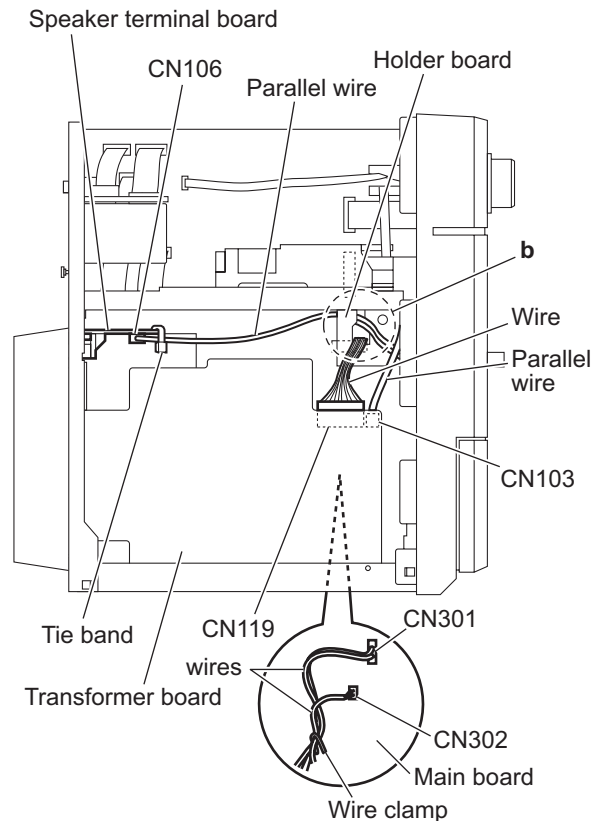

Fig.5
- (4) Remove the wire clamp fixing the wires and disconnect the wires from the connector (CN301, CN302) on the forward side of the main board. (See Fig.5.)
After connecting the wires to the connectors, fix the wires with the wire clamp as before. (See Fig.5.)
- (5) From the left side of the main body, disconnect the parallel wire from the connector CN103 on the transformer board. (See Fig.5.)
- (6) Disconnect the wire from the connector CN119 on the transformer board. (See Fig.5.)
After connecting the wire, pass the wire through the slot **b** of the holder board as before. (See Fig.5.)
- (7) Remove the tie band fixing the parallel wire and disconnect the parallel wire from the connector CN106 on the speaker terminal board. (See Fig.5.)
- After connecting the parallel wire, fix the parallel wire with a new tie band as before. (See Fig.5.)
- After connecting the wire, pass the wire through the slot **b** of the holder board as before. (See Fig.5.)